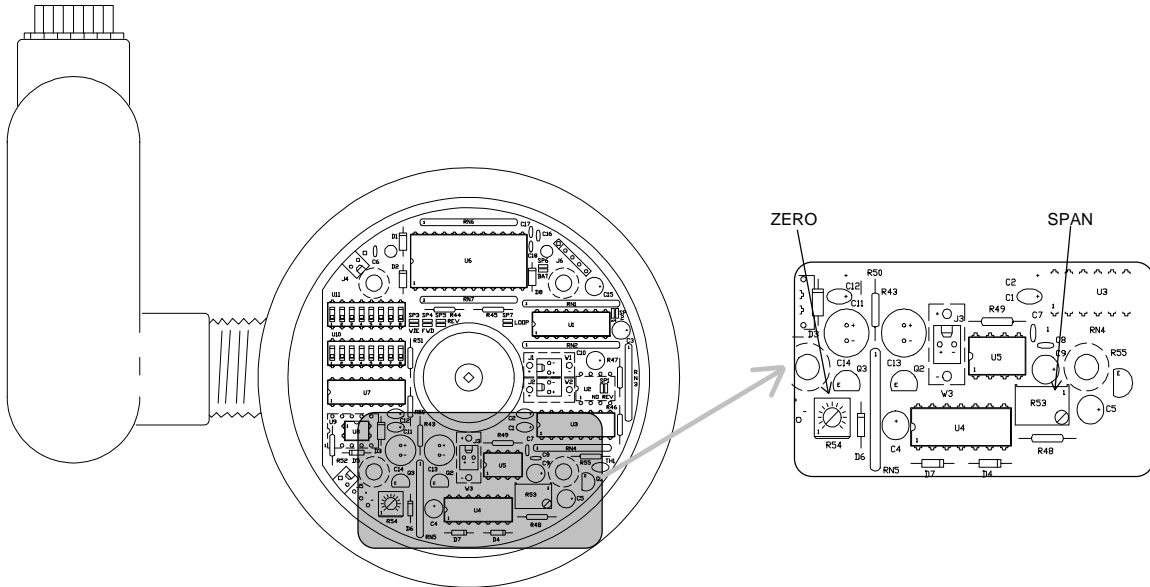

Figure 14 Calibration Of Zero and Span
1. With the motor at zero RPM, adjust the potentiometer farthest to the left end of the E7000 circuit board to read 4.0 mAdc on the multimeter, see Figure 14.